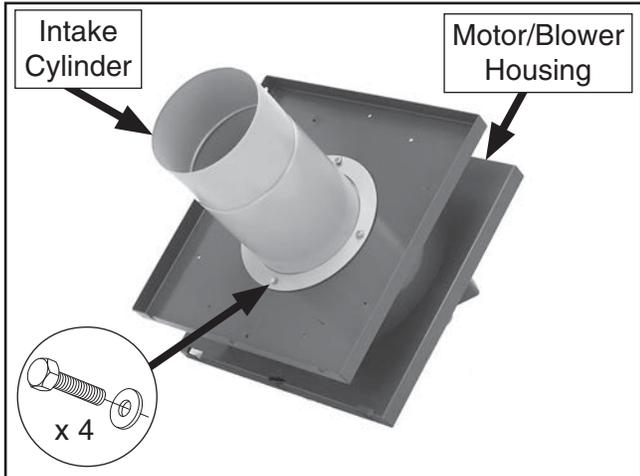

Figure 6. Intake cylinder attached to bottom of motor housing.
6. Attach intake cylinder to bottom of housing, as shown in **Figure 6**, with (4) $\frac{5}{16}$ "-18 x $\frac{3}{4}$ " hex bolts and $\frac{5}{16}$ " flat washers.